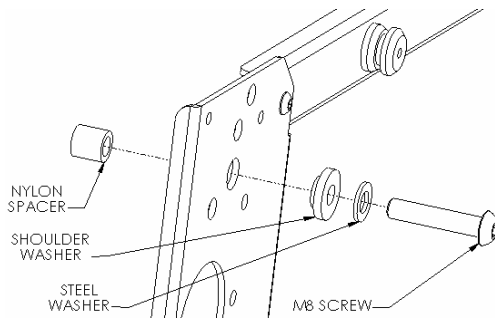
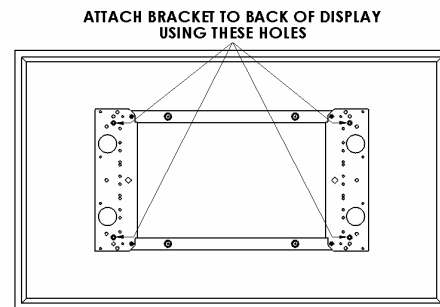

Figure 5
Figure 6
3. Place Nylon spacers over mounting holes on back of screen. Attach mounting brackets to display using the M8 screws, shoulder and steel washers (see Figure 5 & Figure 6). If needed stack spacers and use the screw with the length that best fits the screen.